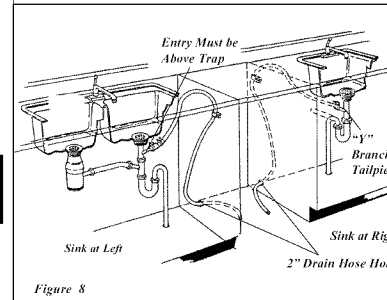

Figure 8
1. Review Figures 8, 9 and 10 to see the different ways to connect dishwasher to drain system. Choose method that best suits your need.
2. If you connect to a sink drain, entry will need to be above trap. A "Y" branch tailpiece and connector kit, not included, will make this method easier and includes all needed fittings and instructions. See Figure 8.